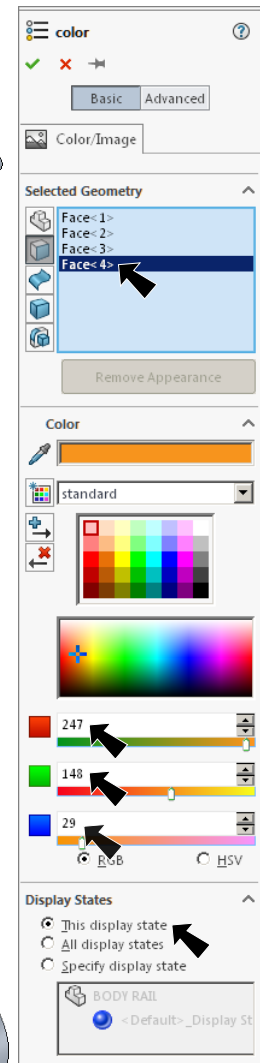

Fig. 172
Step 2. In the Appearances Property Manager, under Selected Geometry, Fig. 172
under Color, Fig. 172